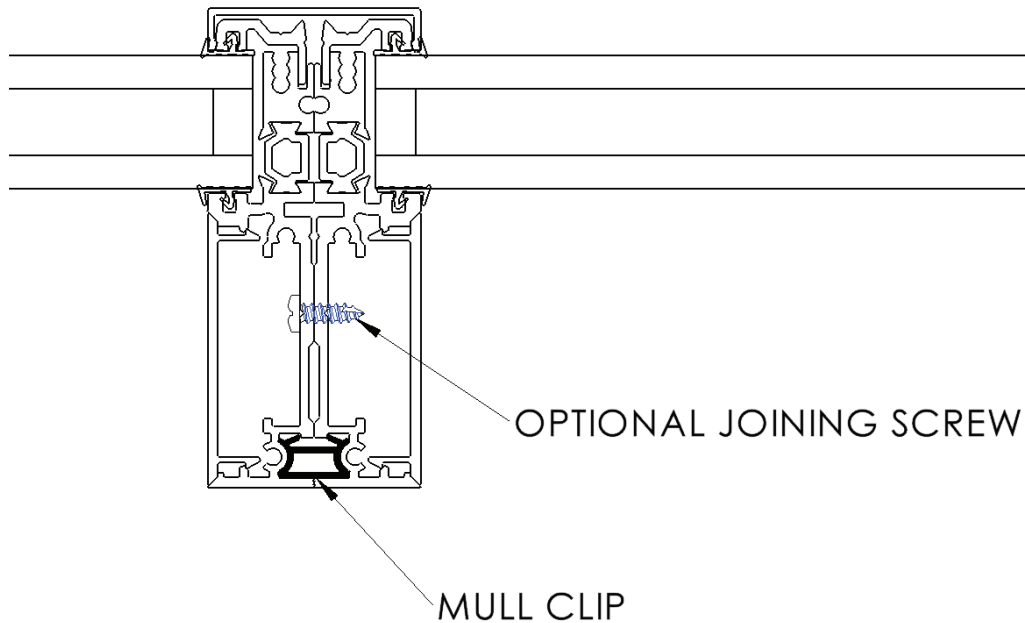

Figure 8
8. Begin to join the two (2) window units together until the frame members come into contact and the mull bar is no longer visible.
9. Verify that the reveal is even from top to bottom. If necessary, use quick clamps with the tips protected and squeeze the units together for an even reveal. Additional #10 x $\frac{1}{2}$ " joining screws shall be added between the two units, at 16" on center location, as shown in Figure 8 for units with a horizontal mull greater than 96" .